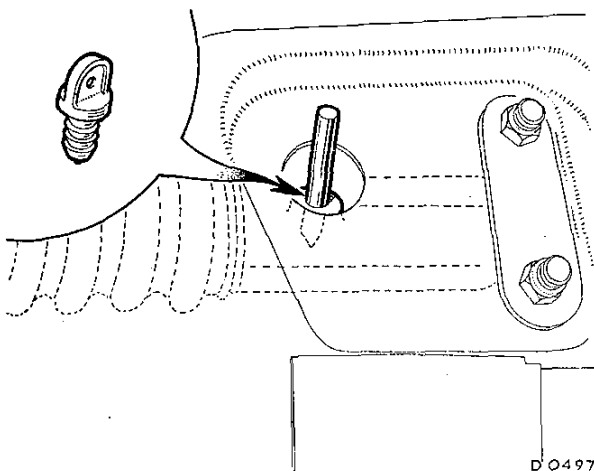

Fig. J.1
- (23) *Mk. II models.* Pull out the plastic plug from the rack casing and insert a locator pin, i.e. a $\frac{1}{4}$ in. (6 mm.) diameter bolt approximately 2 in. (50 mm.) long into the hole. Centralize the rack until the locator pin fully engages in the rack shaft to lock the centralized assembly in position (see Fig. J.1).